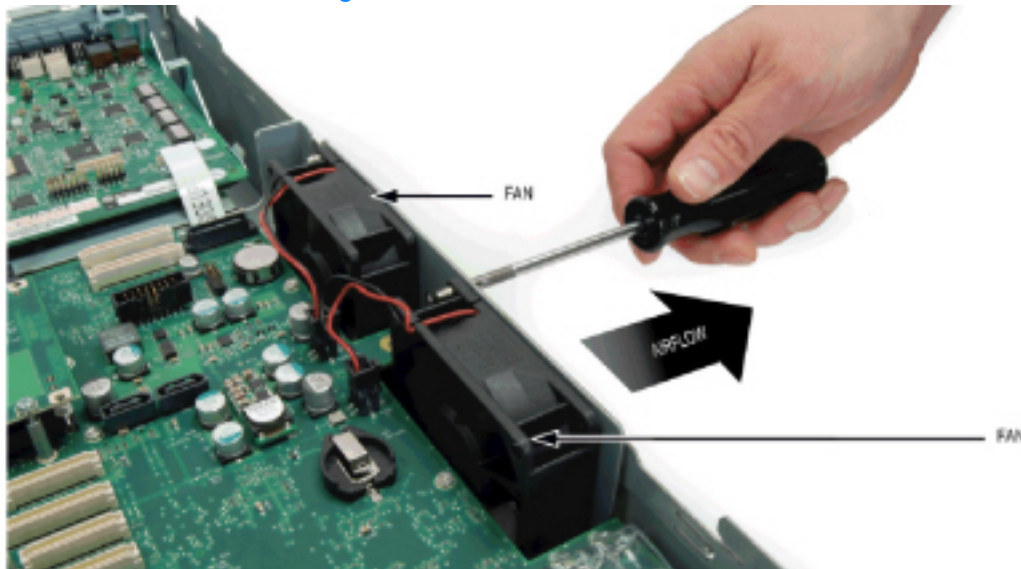
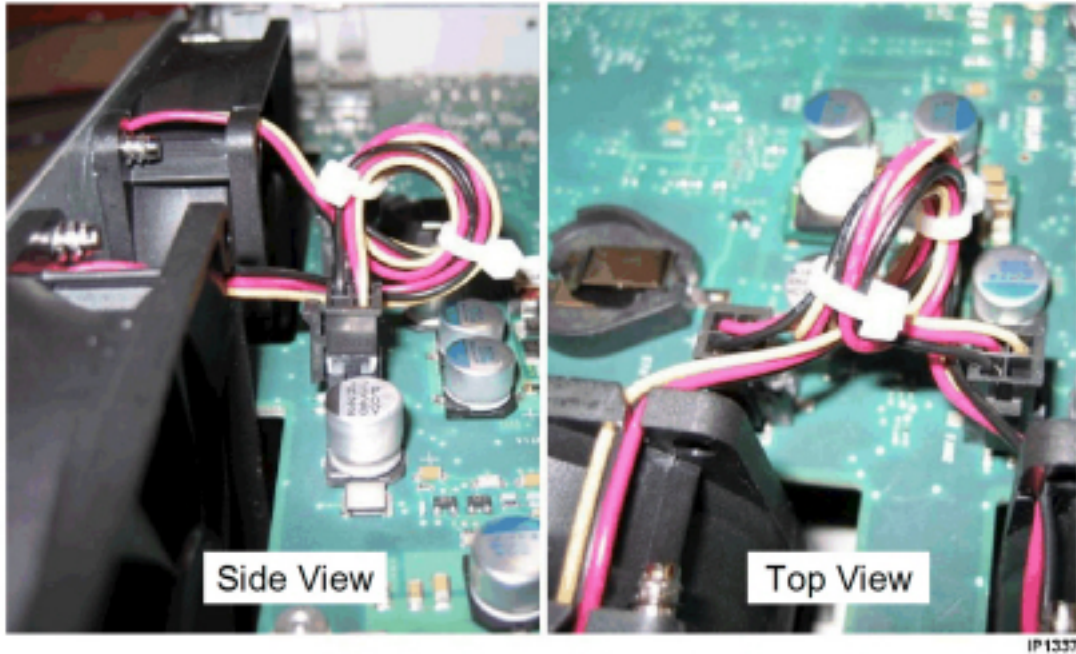

Figure 7.20: Fan Removal
Figure 7.21: Fan Cable Management (New Fan Assembly)
2. Remove the two screws that fasten the fan to the cabinet frame (see Figure 7.20).
NOTE: The fan depicted in Figure 7.20 is the early version. The new version uses longer cables that must be tied off as shown in Figure 7.21.